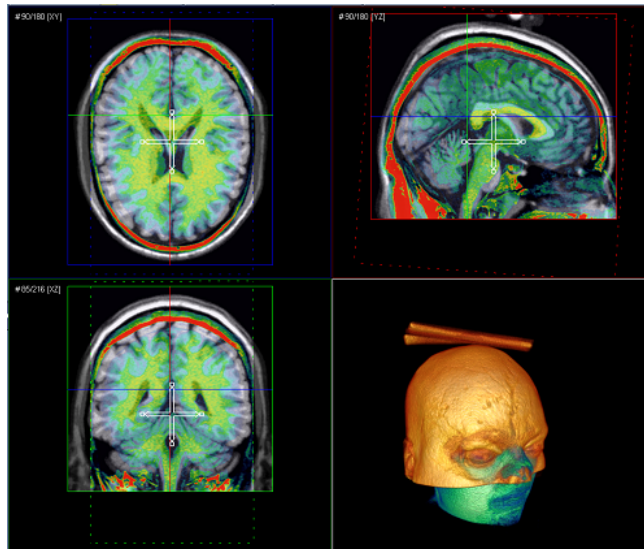

Figure 15.4: Manually registered patient data shown in the *Multiplanar Viewer*
- In the YZ [Sagittal] viewer use the rotate functionality of the manipulator to tilt the patient image by a few degrees clock-wise. Finally, use the translate functionality to center the (smaller) patient brain within the (larger) reference brain. The manually registered images should look similar to Fig. 15.4.